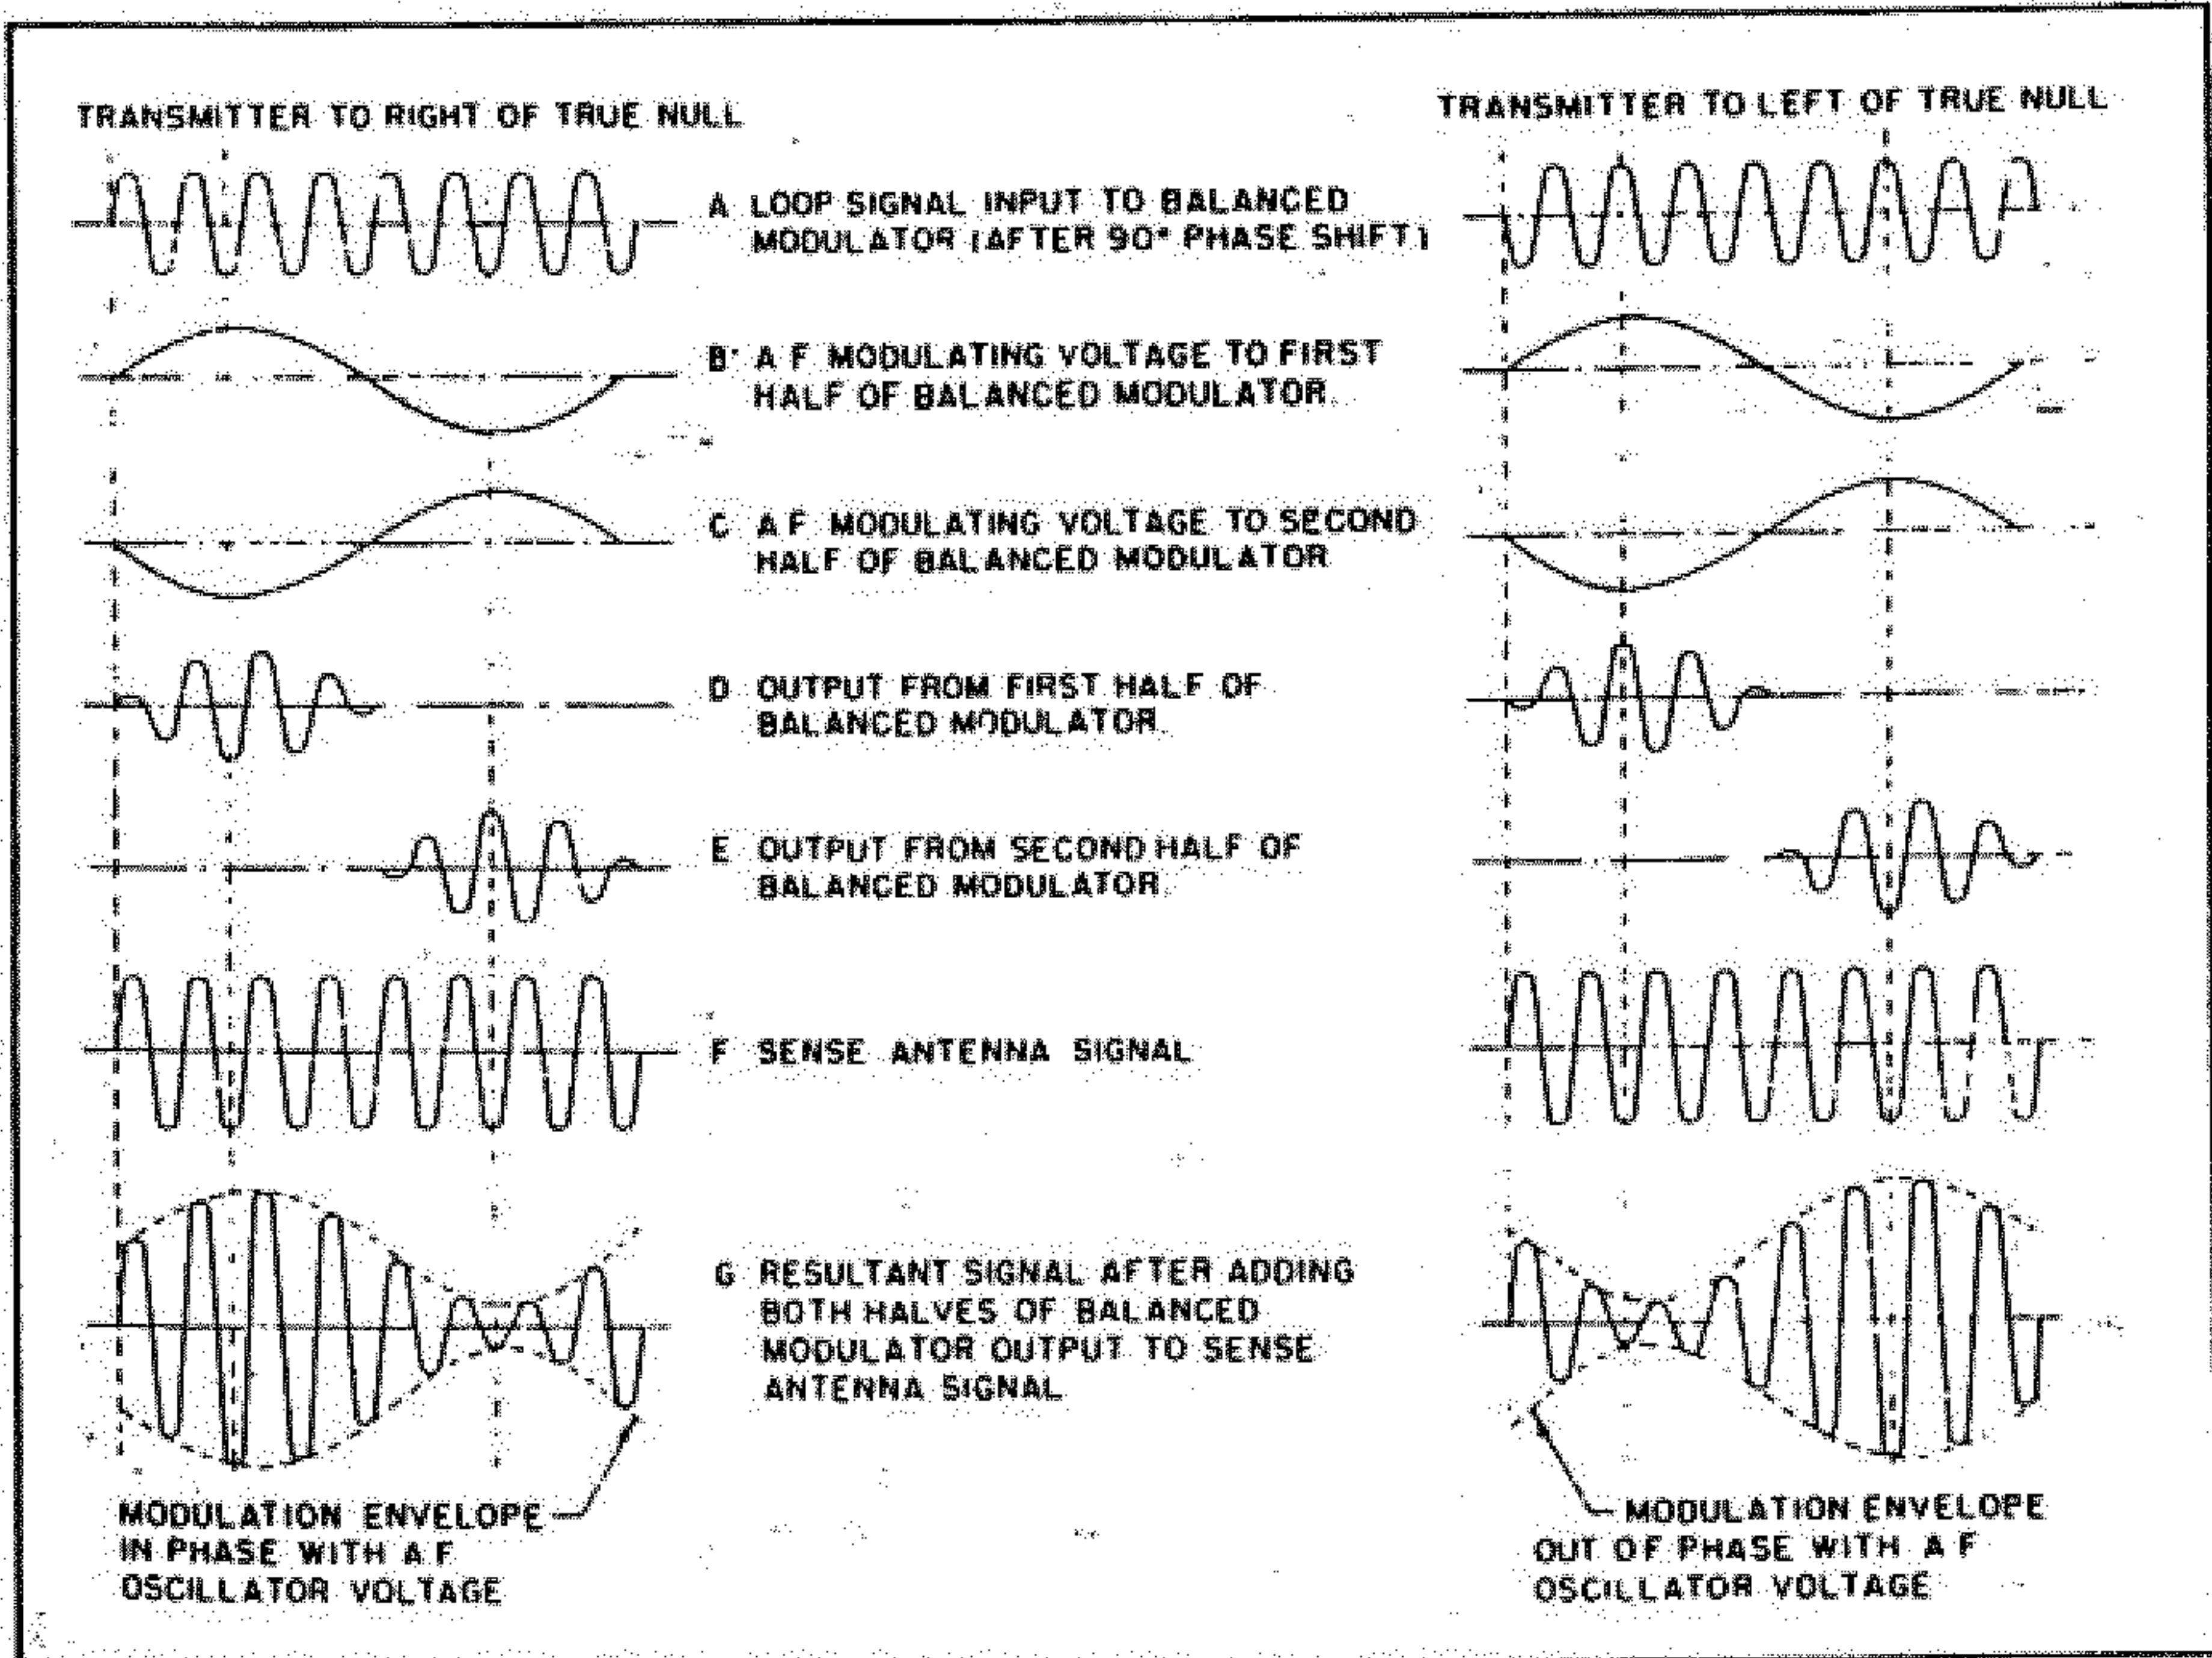

Figure 4-4. Balanced Modulator, Input and Output
(b) Refer to figure 4-4 (A, B, C, D, E). The signal output of the phaser is fed equally to both grids of the balanced modulator (V-102). This tube acts as an amplifier, feeding into the center-tapped winding of transformer L-103. Since the two plates feed the opposite ends of a winding, and since the signals on the plates are in phase, it might be expected that no current would flow in the winding, and consequently no signal would pass through. However, the grids have impressed on them, in phase opposition a modulating voltage from the 100-cycle inverter unit. The effect of this modulating voltage is to make first one of the triodes pass the signal, and then the other. This is equivalent to shifting the input from one end of the coil of L-103 to the other; or, in other words, reversing the phase of the signal, as shown in figure 4-4, D, E.
(c) The signal derived as above (figure 4-4, D, E) and the signal received on the sense antenna (F) are combined in the output of L-103, giving a result shown in (G). This signal passes through the RF and IF circuits of the receiver, and, when finally demodulated by V-108, the resulting 100-cycle audio signal has a phase relation with respect to the original ap-